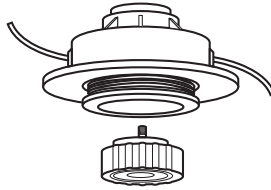

Fig. 24b
7. To replace the spool simply remove from the trimmer head (B11) and replace with a new one of the same type. (See Fig. 24b)